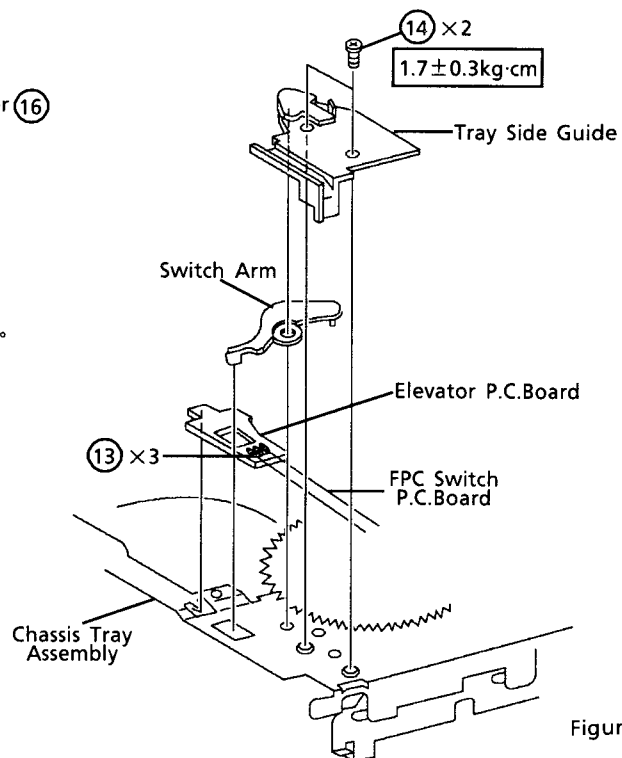

Figure 6
- (1) Remove the three solders (13) as shown in Figure 6.
- (2) Remove the Switch Arm and Tray Side Guide, by removing the two screws (14) as shown in Figure 6.